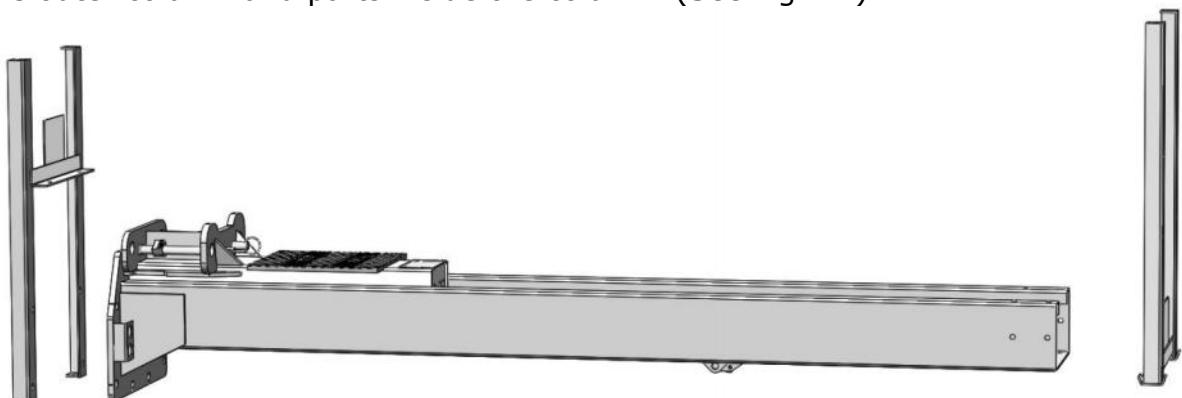

Fig. 14
5. Lift the lower column with a fork lift or hoist, take off the package bracket, then take out the outer column and parts inside the column. (See Fig. 14)